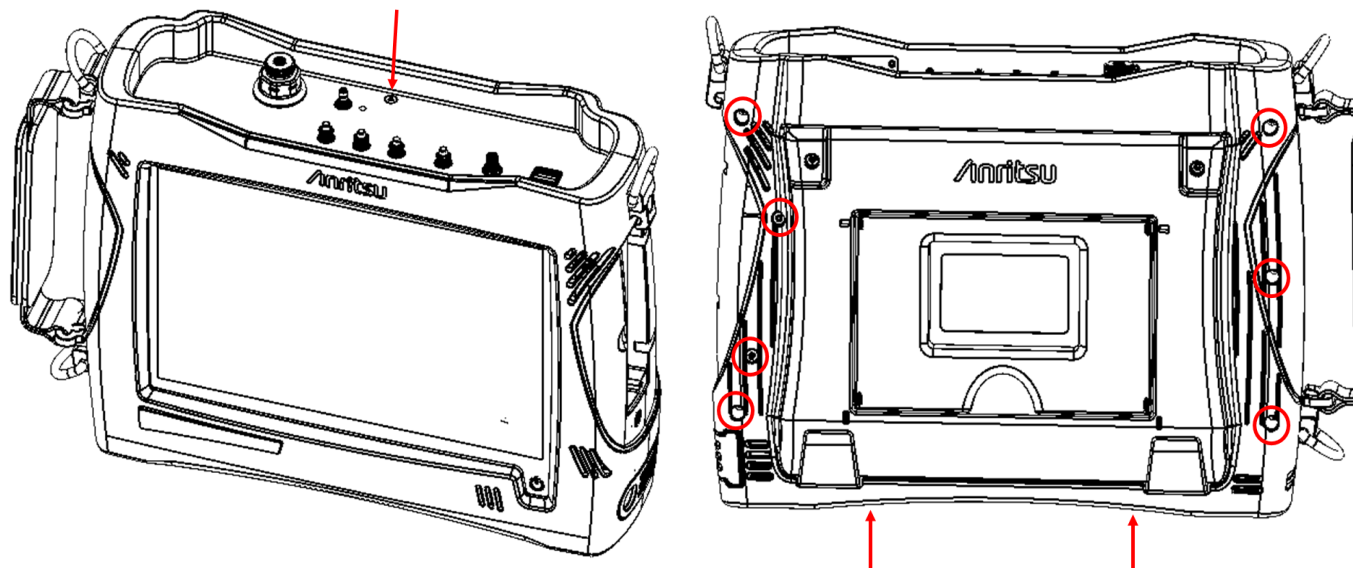

**Figure 5-1.** Rear Case Removal
2. Using a T10 Torx screwdriver, remove the rear case by removing ten screws. One screw will be located on the top, seven will be located on the rear, and two on the bottom of the MS2090A as shown in Figure 5-1.